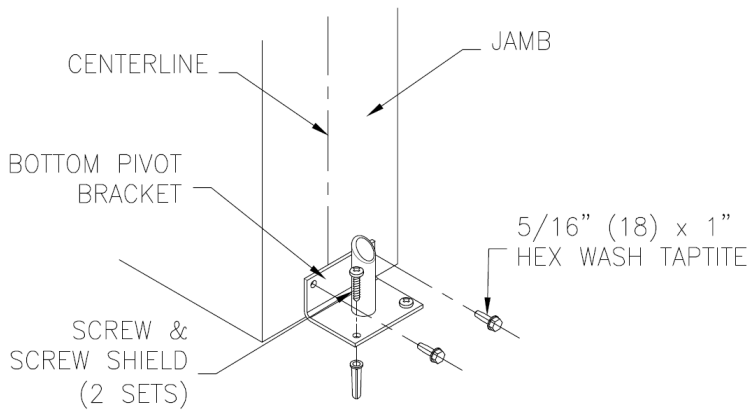

FIG. 3
- Drill and fasten jamb guard to floor with supplied anchor bolts (Fig. 3) (Use 5/8" concrete drill).
- Drill and fasten jamb guard to lintel with supplied self-threading bolts (Pre-drill holes with 1/4" drill) (Fig. 3).